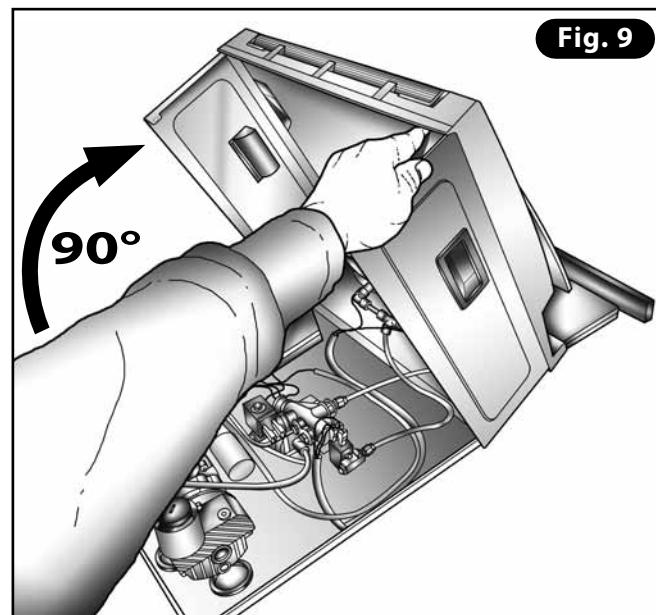

Fig. 9
- 6) Lift the machine body using both hands and lay it on the front (on the work table) (**Fig. 9**).